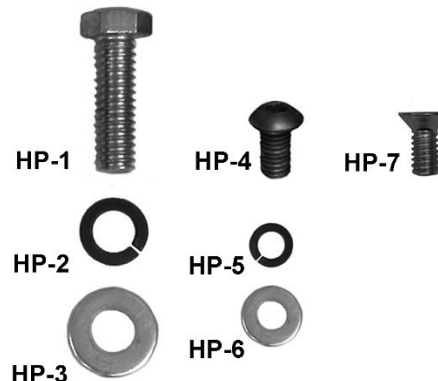

Figure 2: hardware package p/n PM1000-HP
7.1.2 Hardware package (Figure 2)